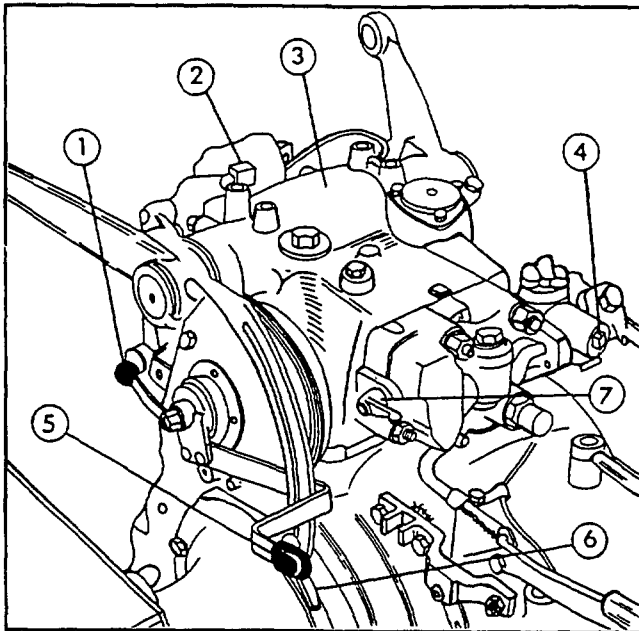

Fig. 19 - Hydraulic lift
E. After the operating height has been selected, while the implement is still working, adjust the sensitivity lever forward to obtain maximum responsiveness to draft changes without unnecessary movement, or "hunting" of the lift. (See Fig. 19)